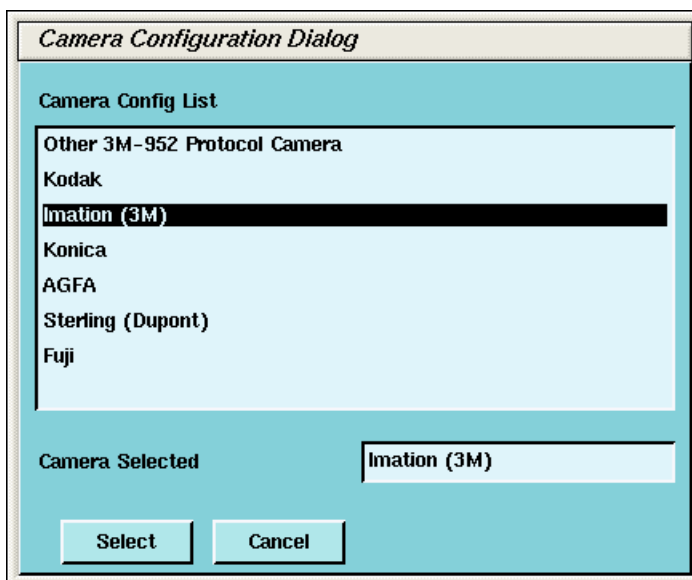

Figure 12-11 Camera Model Dialog (with DASM)
- 5.) To add a new laser camera, click DASM in the camera type dialog box. This brings up a list of available camera models. Select the appropriate model form the list and click SELECT (See Figure 12-11). Now you must configure it.